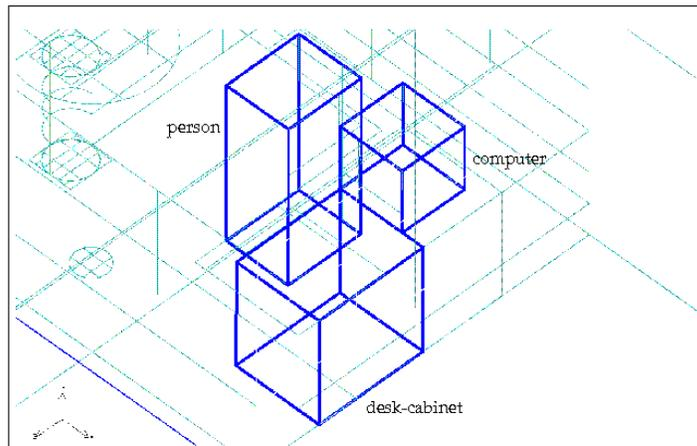

Figure 4.4: Close-Up View of the Hexahedral Block Objects
- (a) Use the right mouse button to zoom into the CAD geometry representing the person and the middle button to translate the view, as shown in Figure 4.4.
**Note:** *The objects will not be highlighted in your display. They are highlighted in Figure 4.4 to help you identify them in your display more easily.*
- ii. Using the left mouse button, click on three of the six surfaces that comprise the person (shown in Figure 4.4) in the graphics window.
- (b) Using the left mouse button, click on three of the six surfaces that comprise the computer (shown in Figure 4.4) in the graphics window.
- (b) Using the left mouse button, click on three of the six surfaces that comprise the desk cabinet (shown in Figure 4.4) in the graphics window.